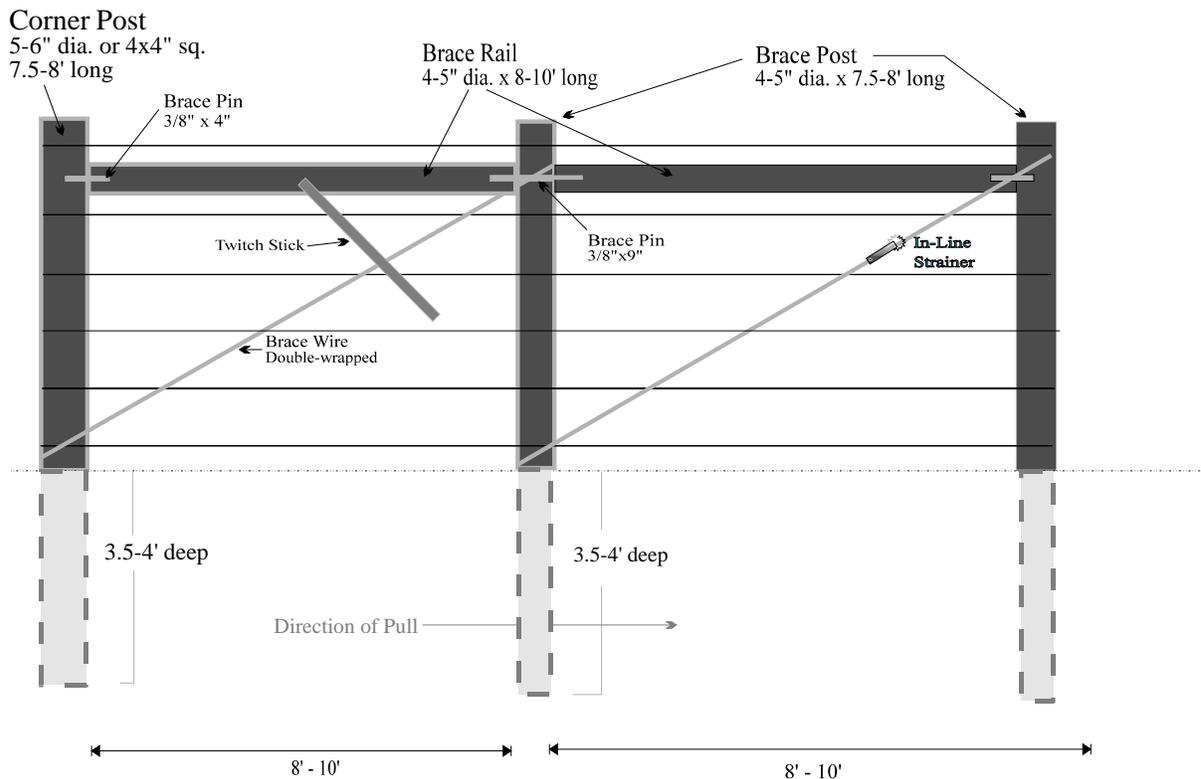

Figure 2. Double Brace Assembly required for gates, ends and corners with more than 5 strands of wire.
- Double brace assembly required for gates, ends, corners with > 5 strands of wire (*see Fig. 2*)